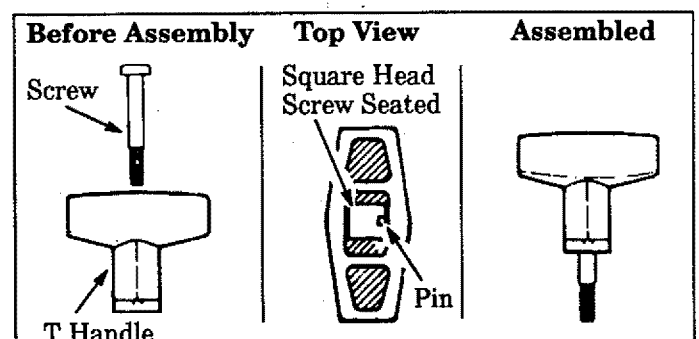

Figure 10
- Drop the threaded end of the square-head T-Handle Screw through the opening in the top of the T-Handle. Figure 10.
- Pull on the threaded end of the Screw to bring the square head of the Screw past the pin inside the T-Handle. Figure 10.